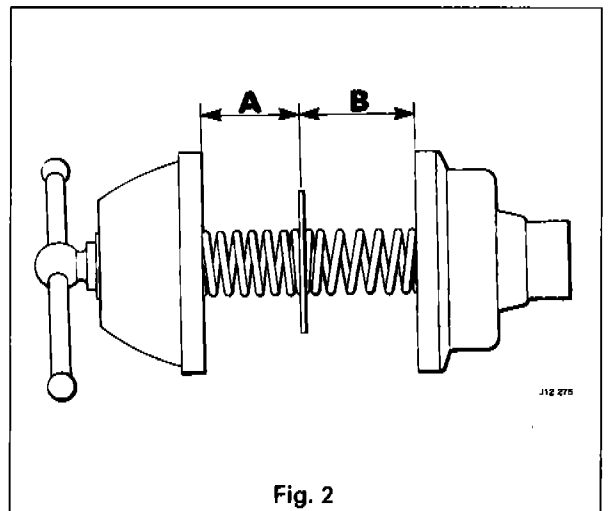

Fig. 2
- To test against a new valve spring, insert both valve springs end to end between the test equipment. Apply a load to partly compress the springs and measure their comparative lengths (Fig. 2).
- Fit the bearing caps, washers and securing nuts (1, 2 Fig. 2).